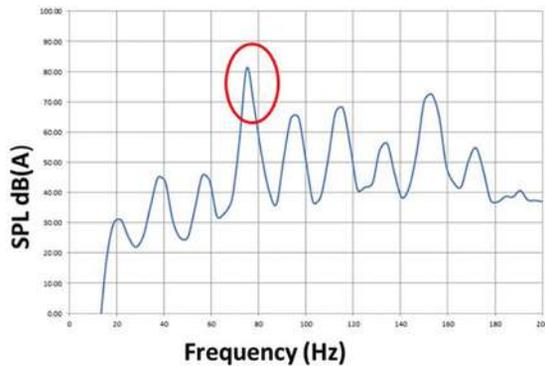

Figure 1: Measured driver-perceived noise level, left side.
Interior booming was identified in a prototype vehicle in stationary condition and at certain vehicle speeds. Figure 1 shows the tested interior noises. The booming peaks appear at 75 Hz, and the sound pressure level at the driver ear is 12 dB (A) higher than the target. Through considerable testing and analysis, the structure-borne sound is confirmed as the major contributor to booming.
The frequency spectrum is measured in the driver's left ear, as shown in Figure 1.
From the frequency data in Figure 1, the peak can be seen at 75 Hz. To study the causes and mechanism of the booming, the “source-transfer path-response” method is used, including BIW (Body-In-White) modal analysis, noise transfer function testing and analysis, acoustic cavity modal, panel vibration contribution, etc.